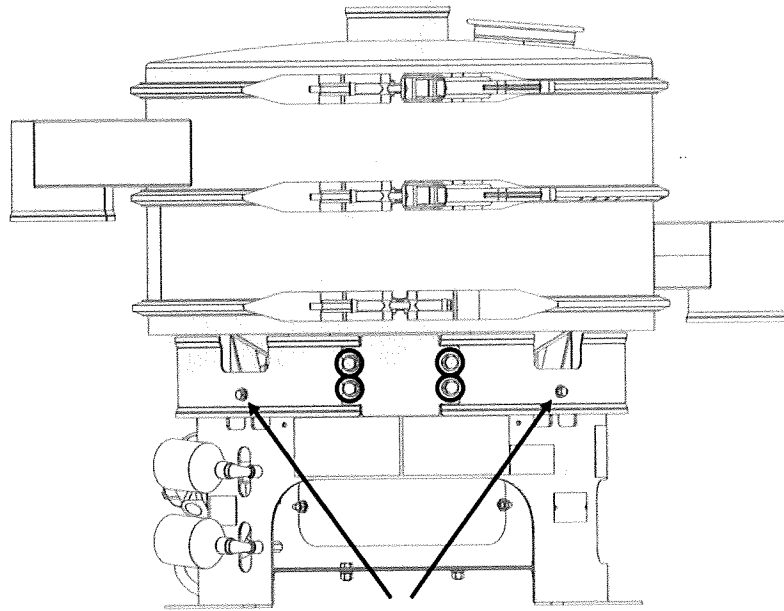

Figure 10. HX Skirt Assembly Mounting Hardware (Arrowed) and Inspection Cover Hardware (Circled)
- b. Loosen the four bolts holding the inspection cover (Figure 10, circled). Pull the cover free.
- c. Remove the four bolts holding the skirt assembly to the lower table (Figure 10, Arrowed, only 2 of 4 bolts shown). The skirt assembly pieces will drop free.